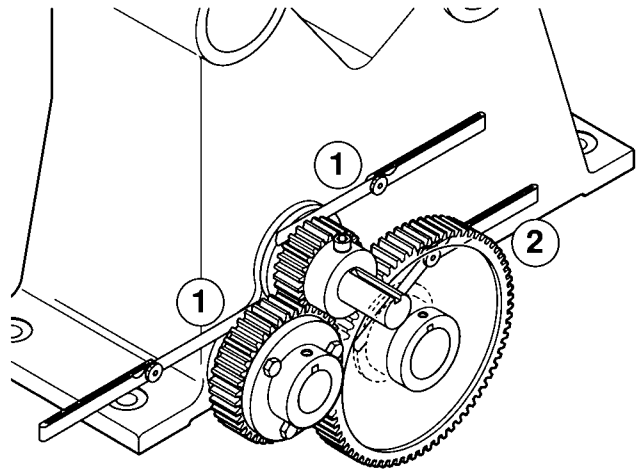

Figure 55 — Use a feeler gauge to set clearance between gears and thrust washers. (1) .004" (.102mm), (2) .007" (.178mm).
7. **Install gear** with key onto jack shaft. Use a feeler gauge to set a .004" (.102 mm) clearance between gear and thrust washer (Figure 55). Tighten set screws.